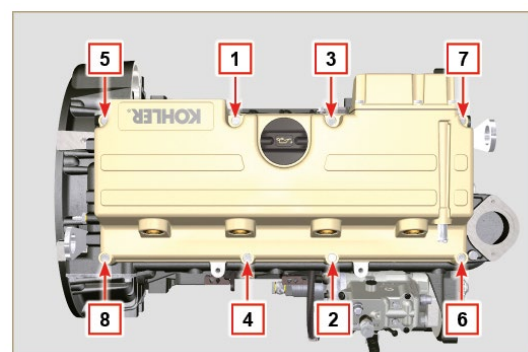
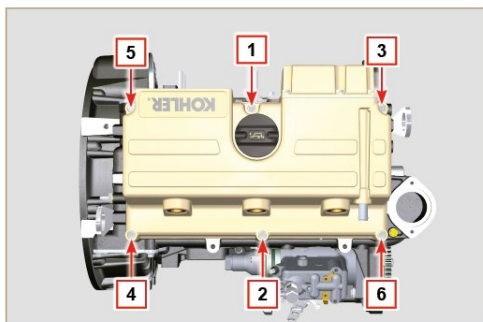

Fig. 9.67
Fig 9.66
1. Position tool **ST_17** onto the head in correspondence with the two fastening holes **5** and **6** (Fig. 9.66 - 9.67).
3. Fit the rocker arm cap **C** on the head **AL** via the screws **L** observing the clamping sequence illustrated in Fig. 9.66 (KDI 1903 M) or Fig. 9.67 (KDI 2504 M) (tightening torque at **10 Nm**).